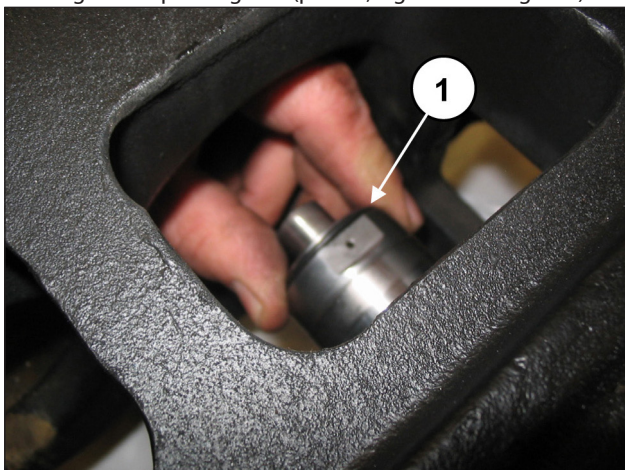
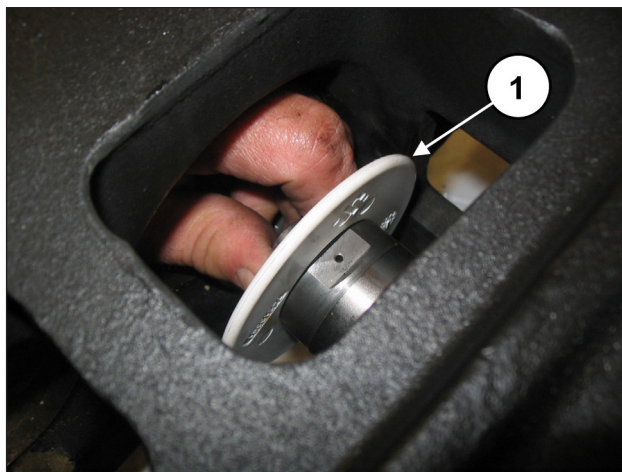

Fig. 174
Fig. 175
Position the spray-guard together with the O-ring in the housing on the piston guide (pos. ①, Fig. 174 and Fig. 175).